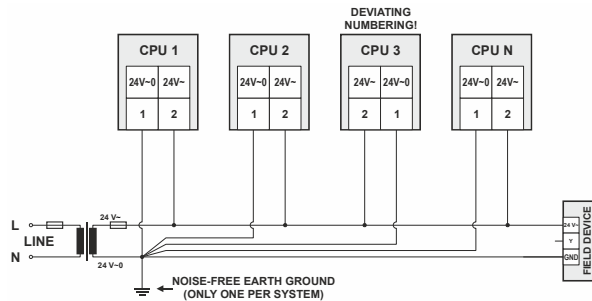

Fig. 59. Connecting and earthing multiple CPUs
- ▶ Connect earth ground to the respective terminal of the CPU, see Fig. 59.